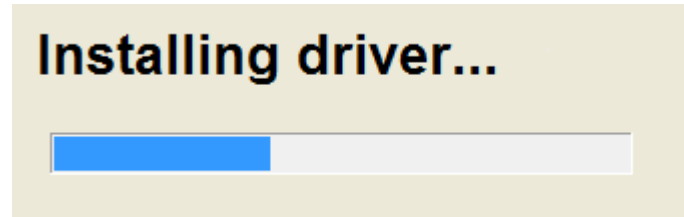

Fig. 3-13 Driver installation
5) After setup completed, the system installs the driver automatically. See Fig. 3-13.